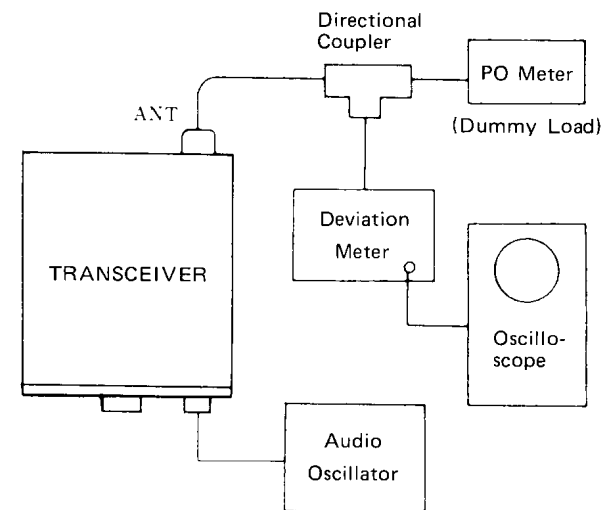

Figure 2
- Assemble the test equipment and the transceiver as shown in Figure 2.